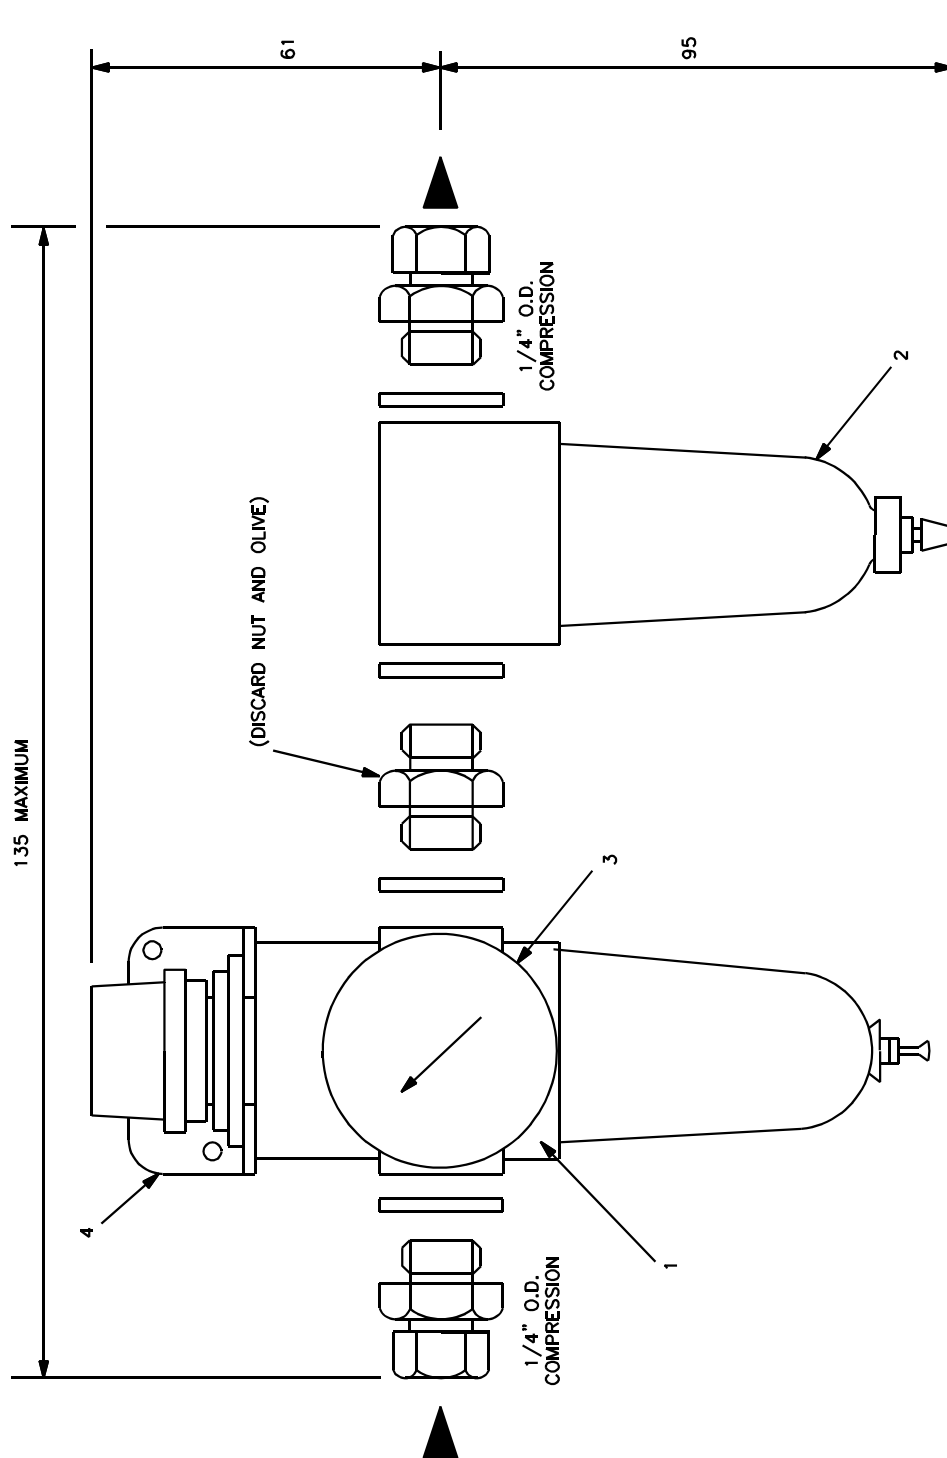

Figure 3.19 Air Supply Regulator (oxygen only)
3.8.1 Air Regulator Set (oxygen only analysers) Part no. 00790986 See Figure 3.19
This is supplied as a kit of parts for local assembly as shown in Figure 3.19 and comprises: